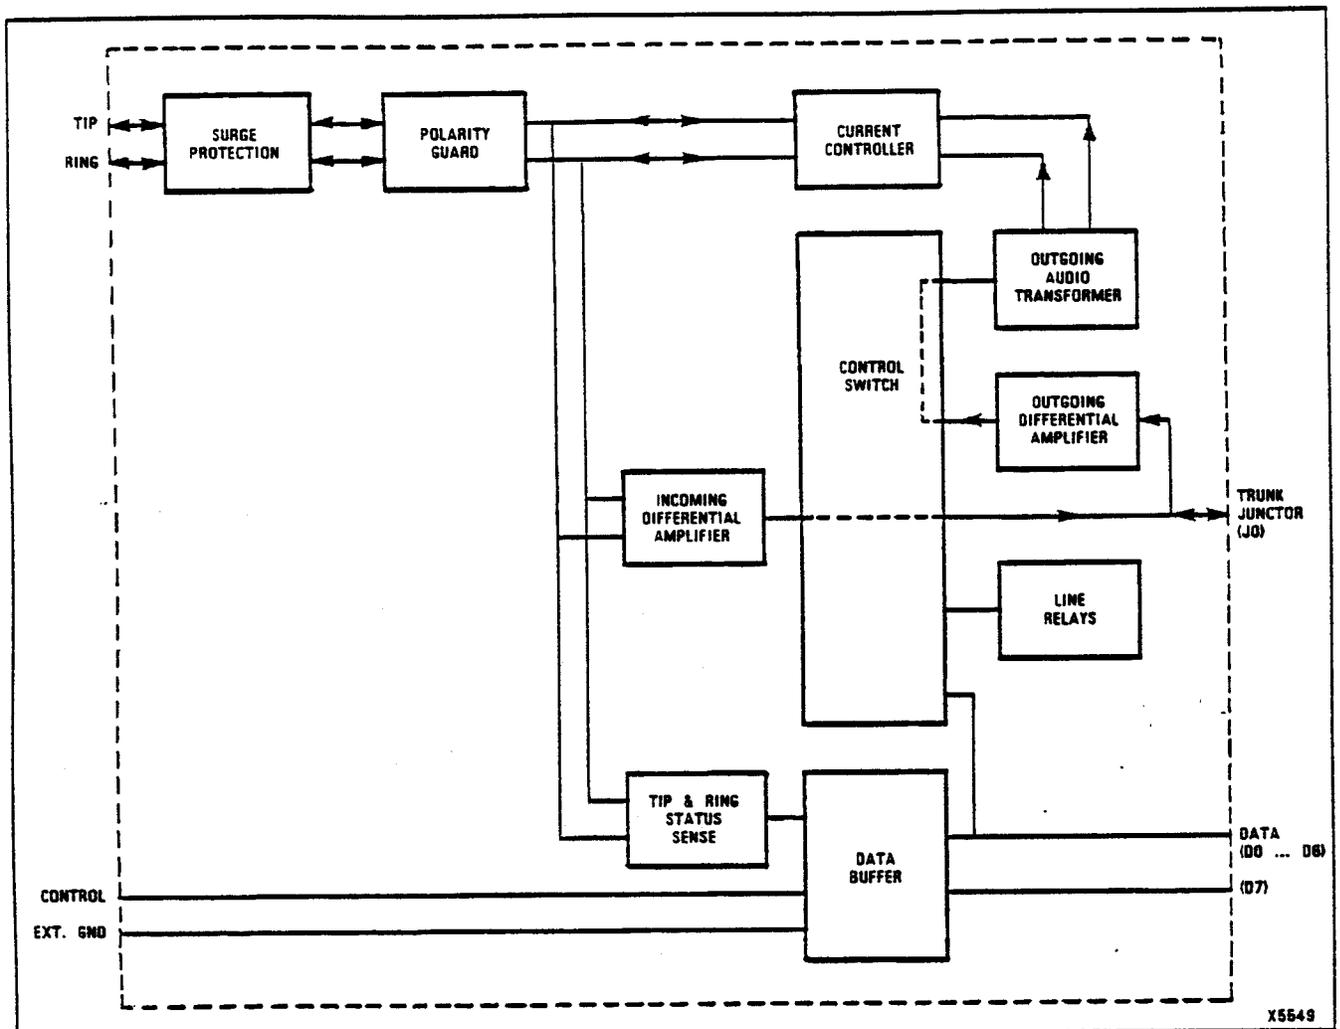

Fig. 9-3 Trunk Circuit (2 circuits per Trunk Module)
Trunk Module (Fig. 9-3)
9.06 The Trunk Module provides two CO trunk circuits, an example of which is shown in Fig. 9-3. Trunks may be set for "loop start" or "ground start" working by means of a switch mounted on the trunk module (preset at the factory to "loop start").